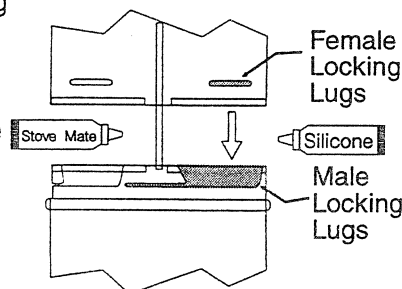

Fig. 1
a) Twist-lock procedure: Four indentations, located on the female ends of pipes and fittings, are designed to slide straight onto the male ends of adjacent pipes and fittings, by orienting the four pipe indentations so they match and slide in to the four entry slots on the male ends. (Fig. 1) Push the pipe sections completely together, then twist-lock one section clockwise approximately one-quarter turn, until the two sections are fully locked. The female locking lugs will not be visible for the outside, on the Black Pipe or fittings. They may be located by examining the inside of the female ends.